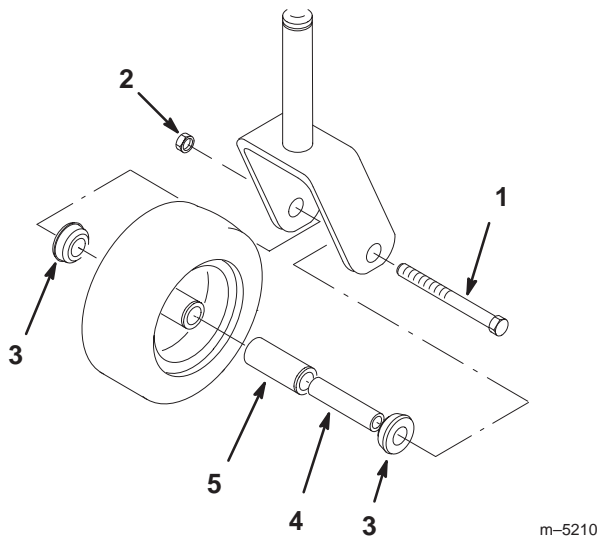

Figure 66
1. Remove the locknut and wheel bolt holding the caster wheel to the caster fork (Fig. 66).
2. Remove one bushing, then pull the spanner bushing and roller bearing out of the wheel hub (Fig. 66).
3. Remove the other bushing from the wheel hub and clean any grease and dirt from the wheel hub (Fig. 66).
4. Inspect the roller bearing, bushings, spanner bushing and inside of the wheel hub for wear. Replace any defective or worn parts (Fig. 66).
5. To assemble, place one bushing into the wheel hub. Grease the roller bearing and spanner bushing and slide them into the wheel hub. Place the second bushing into the wheel hub (Fig. 66).
6. Install the caster wheel into the caster fork and secure with the wheel bolt and locknut. Tighten the locknut until the spanner bushing bottoms against the inside of the caster forks (Fig. 66).